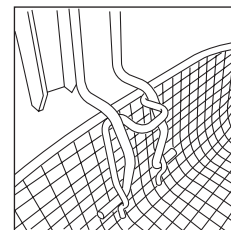

fig. 3
- Hook the handle to the basket by pulling it until it locks into place as shown in fig. 3.